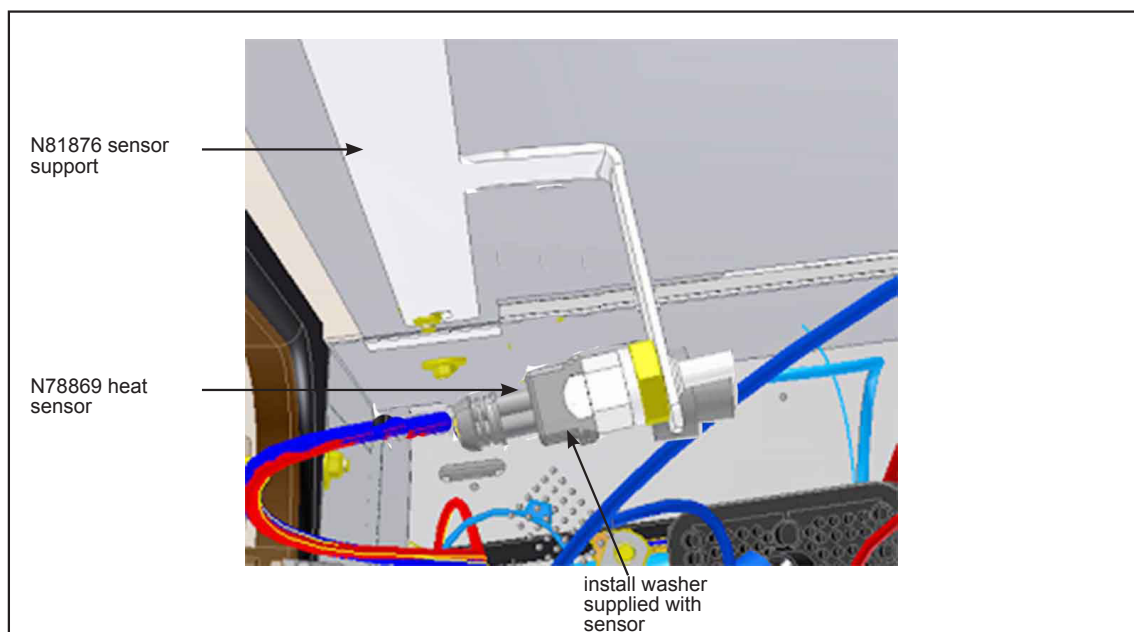

Figure 20 - Heat Sensor Installation
- 1.27. Install the N78869 heat sensor on the sensor support. See Figure 20.